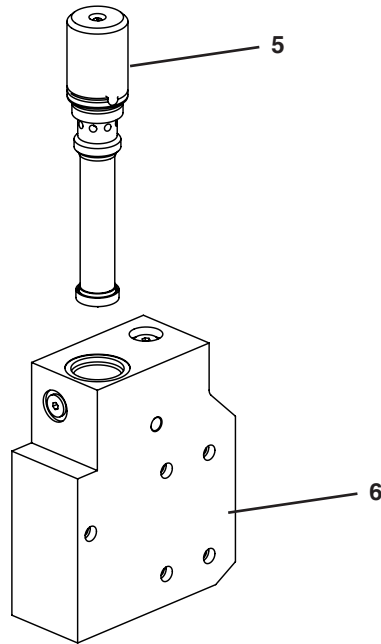

Figure 6-7: Removing the density controller and filter assembly
5. See Figure 6-7. Use a wrench to turn the density controller and filter assembly counterclockwise to remove it from the manifold.